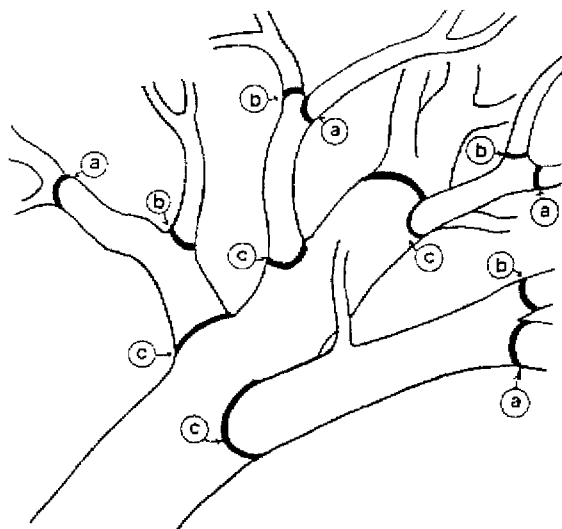

Figure 5:11
- (1) branches swinging back or dropping; or
- (2) the tree shifting
- a. First cut and remove branches hindering your work. Cut branches in two or more sections when this facilitates clearing work at (a), (b) and (c) in sequence for each limb as shown in Figure 5:11. (See Figure 5:11). Keep your working space clear of cut branches.